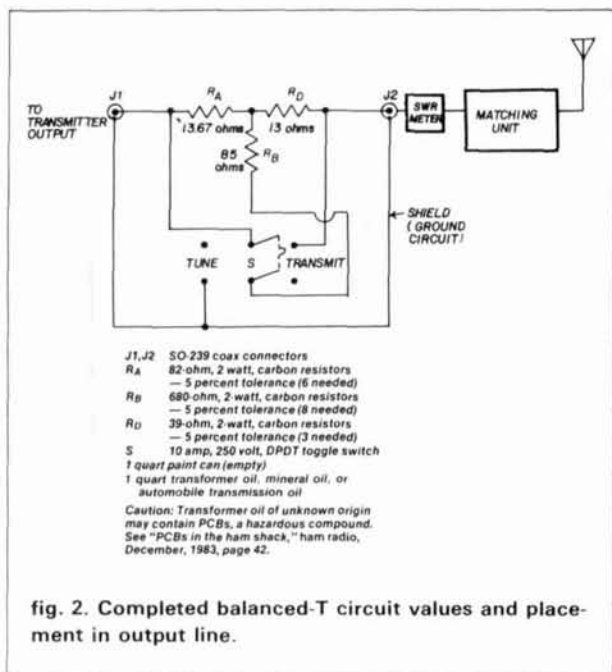

fig. 2. Completed balanced-T circuit values and placement in output line.
During actual tune up, R_L , the 50-ohm load resistance, is replaced by the input of the matching unit in the circuit in fig. 2.
immersed in oil for a simple 50-ohm dummy load. I decided to follow the same procedure used then for the final T network, (fig. 2), in this project. My earlier tests had shown it was possible to use a heat dissipation factor of 2.5 as a conservative approach for normal tune-up time. To choose resistors, I checked to see what was available at my local electronics store, and then calculated what was needed to approach the theoretical values previously identified. For R_A , six 82-ohm, 2-watt carbon composition resistors in parallel equal 13.67 ohms with an allowable wattage rating of $(\text{watts per resistor})(\text{number of resistors})(\text{derating factor}) = (2)(6)(2.5) = 30 \text{ watts}$, which was above the previously calculated value of 26.8 watts. (The values of resistors specified are shown in the parts list of fig. 2.)